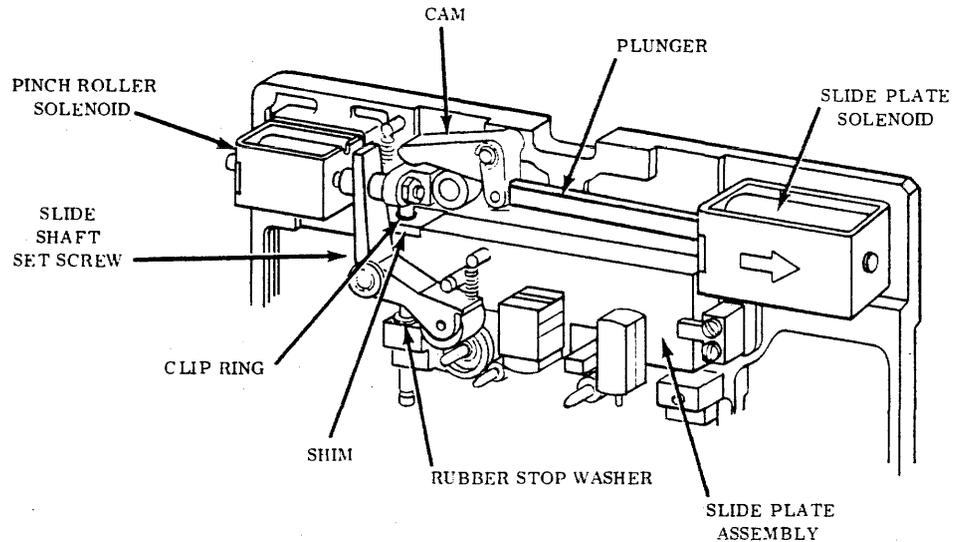

FIGURE 11-2 TAPE HEAD SLIDE PLATE SOLENOID
Adjustment of the solenoid mounting position will be required after a new solenoid, slide plate assembly or associated parts are installed. A need for adjustment may be indicated by: (1) sluggish slide plate action (provided moving parts are clean); (2) slide plate bouncing up during Read and Write operations. To adjust, refer to Figure 11-2 and proceed as follows: